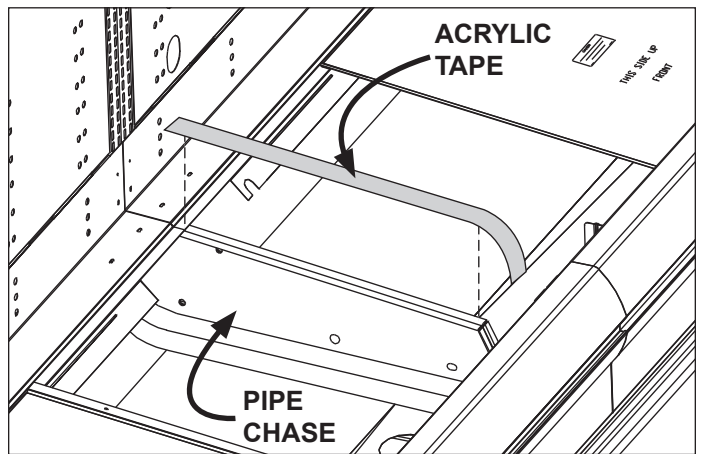

Fig. 4 Sealing the pipe chase
3. Seal the interior case-to-case joints with caulk (supplied), then apply acrylic tape (supplied) over the pipe chase seam (Fig. 4). The tape acts as a watershed preventing water from settling in the case joint.